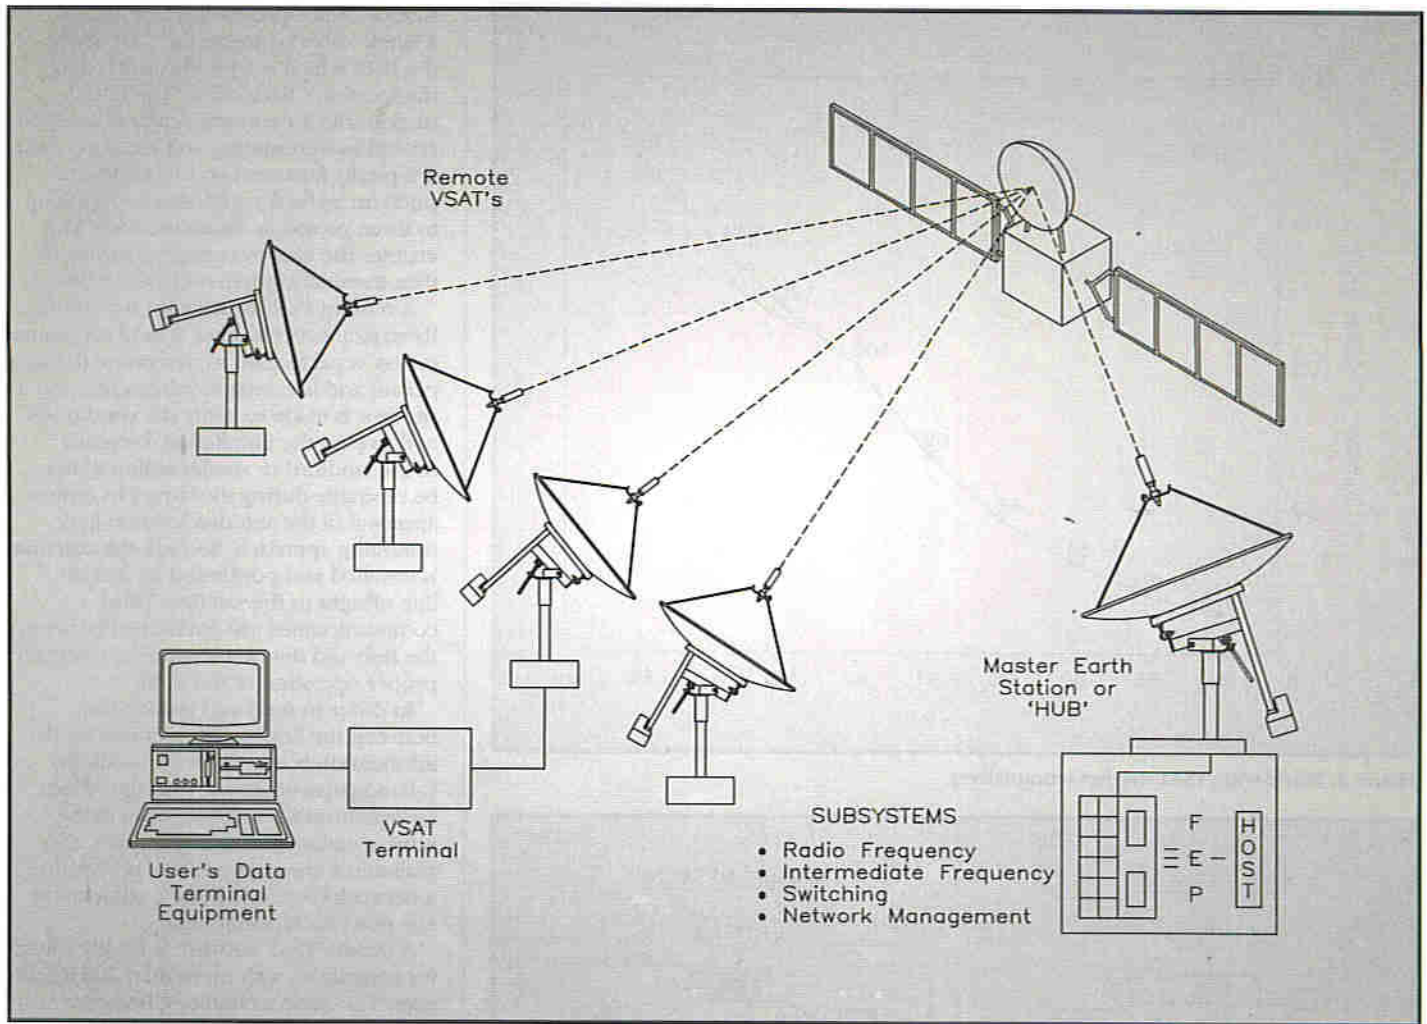

Figure 4. VSAT network architecture.
A VSAT network comprises a central master earth station or 'hub', and geographically dispersed VSATs (see Figure 4). The hub consists of a satellite antenna (5 to 9 metres), Radio Frequency (RF) and Intermediate Frequency (IF) equipment, a Network Control System (NCS) and a switching element that connects to a user's mainframe computer(s). The switching element is at the heart of the hub, and it provides the necessary capabilities to route data from any point in the network to any other point. The NCS permits the network operator to configure, download, monitor and troubleshoot the entire network from other central hub location.